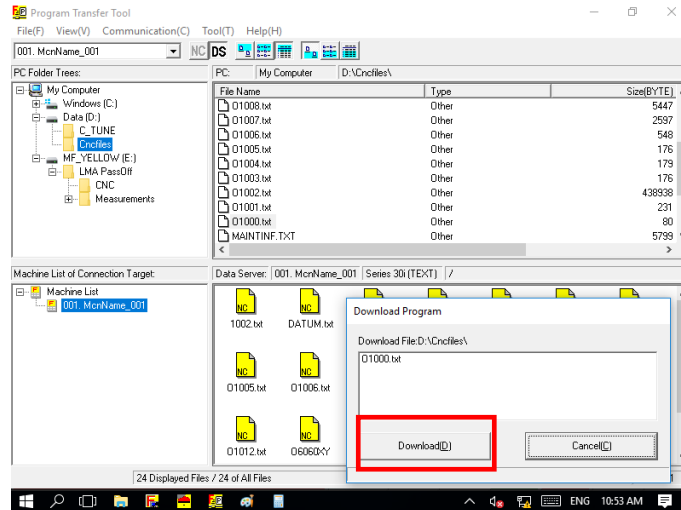

Figure 33 - Download Program dialog box
The “Download Program” dialog box opens. See (Figure 33 - Download Program dialog box).
8. Select a different Canned program to clear the current program and repeat the above steps to transfer the program. See (Figure 33 - Download Program dialog box).